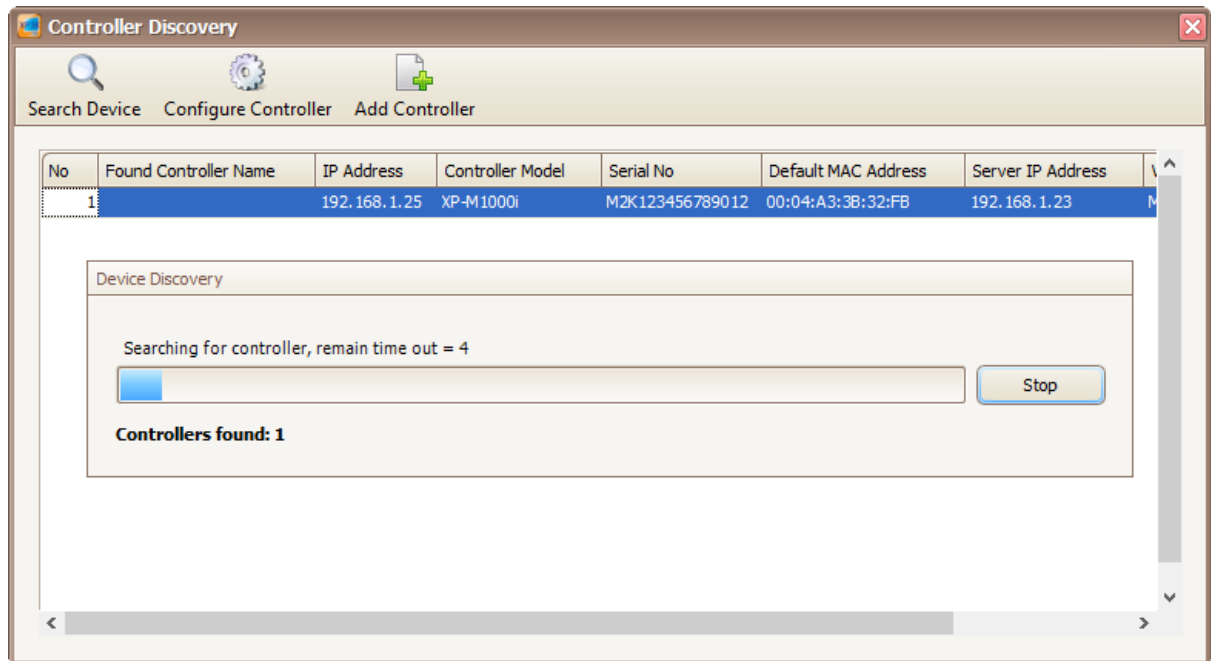

Figure 46 - Device Lookup
2. The following screen will be shown (*Refer Figure 46*).